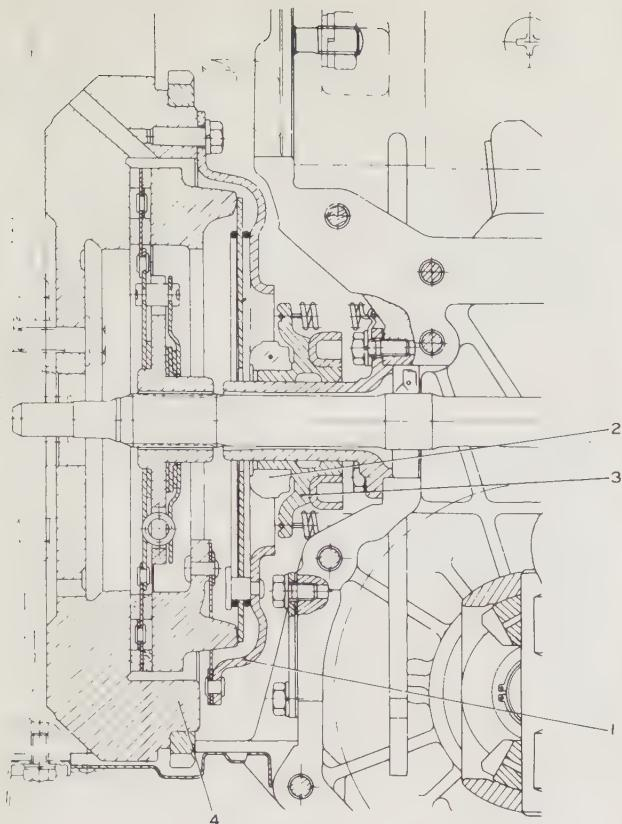

Fig. 5.1. Cross-section thru clutch
- 2 When the clutch pedal is depressed the clutch springs are compressed which releases the pressure plate pressure, thereby freeing the driven plate (disc), which is splined to the gearbox input shaft. When the clutch driven plate is freed there is no drive from the engine to the gearbox, and when engaged, drive is transmitted from the engine to the gearbox. Fig. 5.1. shows a cross-section thru the clutch.